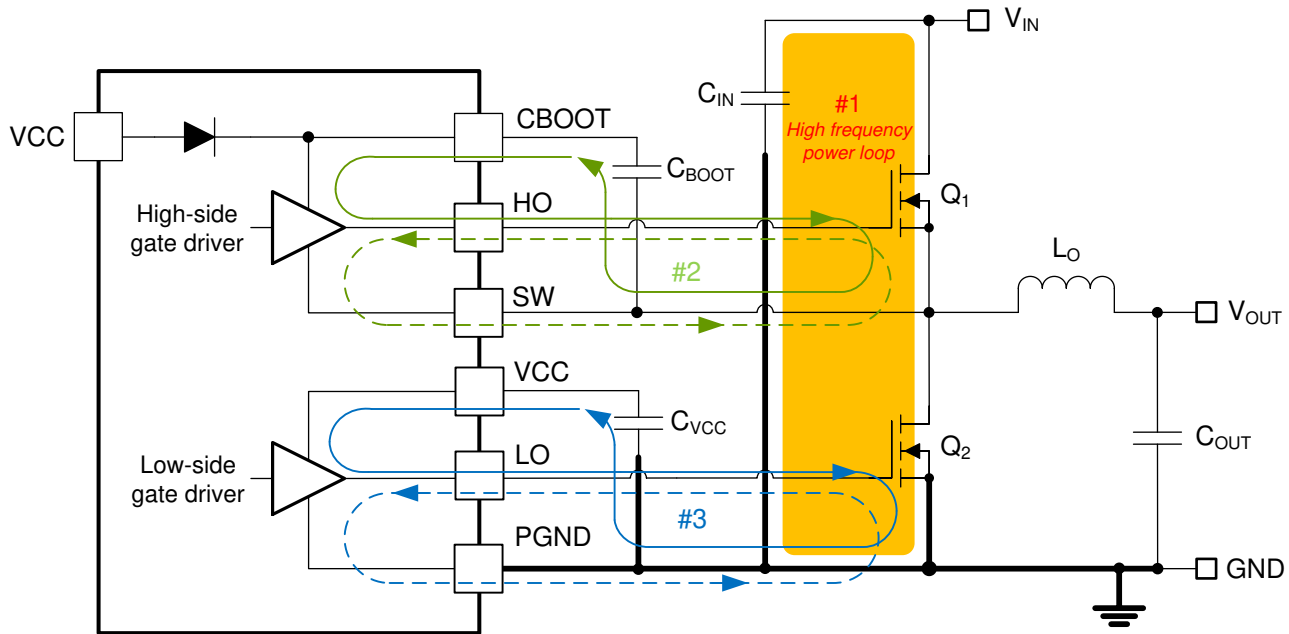

FIG 9-46. DC/DC Regulator Ground System With Power Stage and Gate Drive Circuit Switching Loops
Proper PCB design and layout is important in a high-current, fast-switching circuit (with high current and voltage slew rates) to achieve a robust and reliable design. As expected, certain issues must be considered before designing a PCB layout using the LM5148-Q1. The high-frequency power loop of a buck regulator power stage is denoted by loop 1 in the shaded area of Figure 9-46. The topological architecture of a buck regulator means that particularly high di/dt current flows in the components of loop 1, and it becomes mandatory to reduce the parasitic inductance of this loop by minimizing its effective loop area. Also important are the gate drive loops of the high-side and low-side MOSFETs, denoted by 2 and 3, respectively, in Figure 9-46.
- Loop 1: The most important loop area to minimize is the path from the input capacitor or capacitors through the high- and low-side MOSFETs, and back to the capacitor or capacitors through the ground connection. Connect the input capacitor or capacitors negative terminal close to the source of the low-side MOSFET (at ground). Similarly, connect the input capacitor or capacitors positive terminal close to the drain of the high-side MOSFET (at V_{IN}). Refer to loop 1 of FIG 9-46.
- The SW pin connects to the switch node of the power conversion stage and acts as the return path for the high-side gate driver. The parasitic inductance inherent to loop 1 in FIG 9-46 and the output capacitance (C_{OSS}) of both power MOSFETs form a resonant circuit that induces high frequency (greater than 50 MHz) ringing at the SW node. The voltage peak of this ringing, if not controlled, can be significantly higher than the input voltage. Make sure that the peak ringing amplitude does not exceed the absolute maximum rating limit for the SW pin. In many cases, a series resistor and capacitor snubber network connected from the SW node to GND damps the ringing and decreases the peak amplitude. Provide provisions for snubber network
- Loop 2: high-side MOSFET, Q_1 . During the high-side MOSFET turnon, high current flows from the bootstrap (boot) capacitor through the gate driver and high-side MOSFET, and back to the negative terminal of the boot capacitor through the SW connection. Conversely, to turn off the high-side MOSFET, high current flows from the gate of the high-side MOSFET through the gate driver and SW, and back to the source of the high-side MOSFET through the SW trace. Refer to loop 2 of Figure 9-46.
- Loop 3: low-side MOSFET, Q_2 . During the low-side MOSFET turnon, high current flows from the VCC decoupling capacitor through the gate driver and low-side MOSFET, and back to the negative terminal of the capacitor through ground. Conversely, to turn off the low-side MOSFET, high current flows from the gate of the low-side MOSFET through the gate driver and GND, and back to the source of the low-side MOSFET through ground. Refer to loop 3 of Figure 9-46.